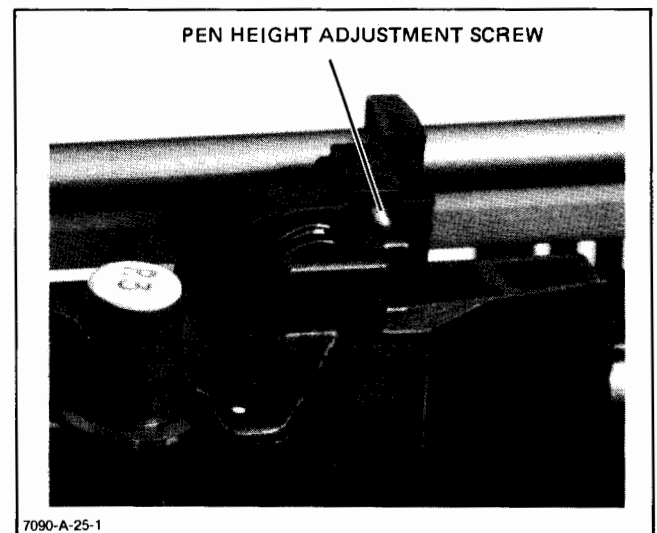

Figure 3-3. Pen Height Adjustment
- To adjust pen height, insert a 0.050 in. Allen wrench through hole at rear of pen carriage. Turn clockwise to decrease height and counter-clockwise to increase pen height. See Figure 3-3.